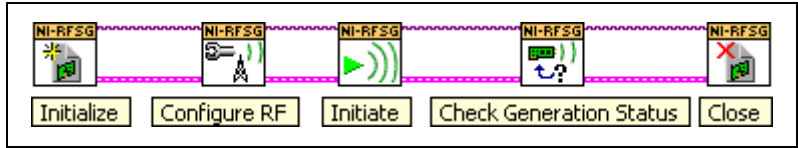

Figure 12. Basic NI-RFSG Block Diagram
7. Create the block diagram shown in Figure 12 by wiring the five VIs on the block diagram in the order in which they appear in the top row of the NI-RFSG palette.